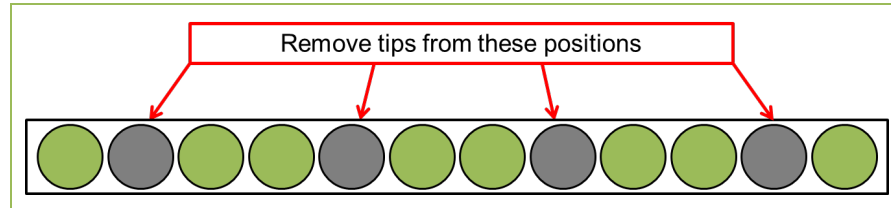

Figure 2: Tip Loading Strategy on a 12-channel Pipettor
4. Before adding medium, load a 12-channel pipettor with sterile tips and remove tips from the positions identified in Figure 2.
3. Load a 12-channel pipettor with sterile tips as identified in Figure 2 and remove the spent medium from the 48-well MEA plate one row at a time.